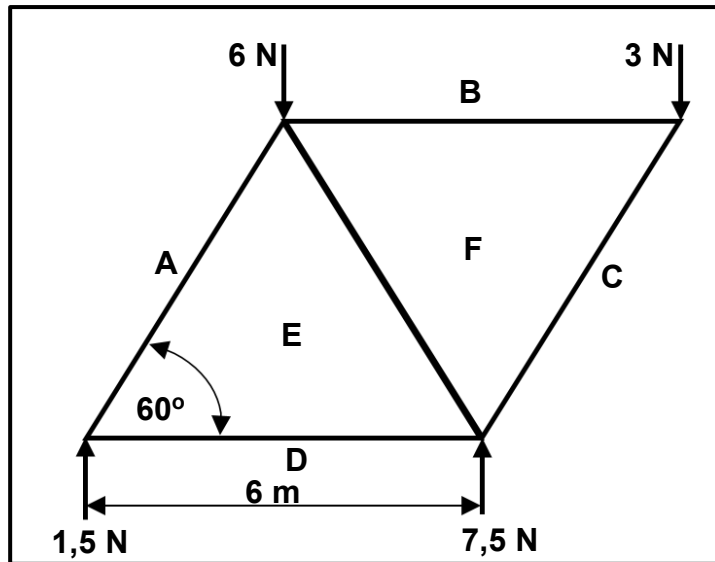

FIGURE 7.1
- 7.1 A steel framework is shown in FIGURE 7.1 below. Answer the questions that follow.